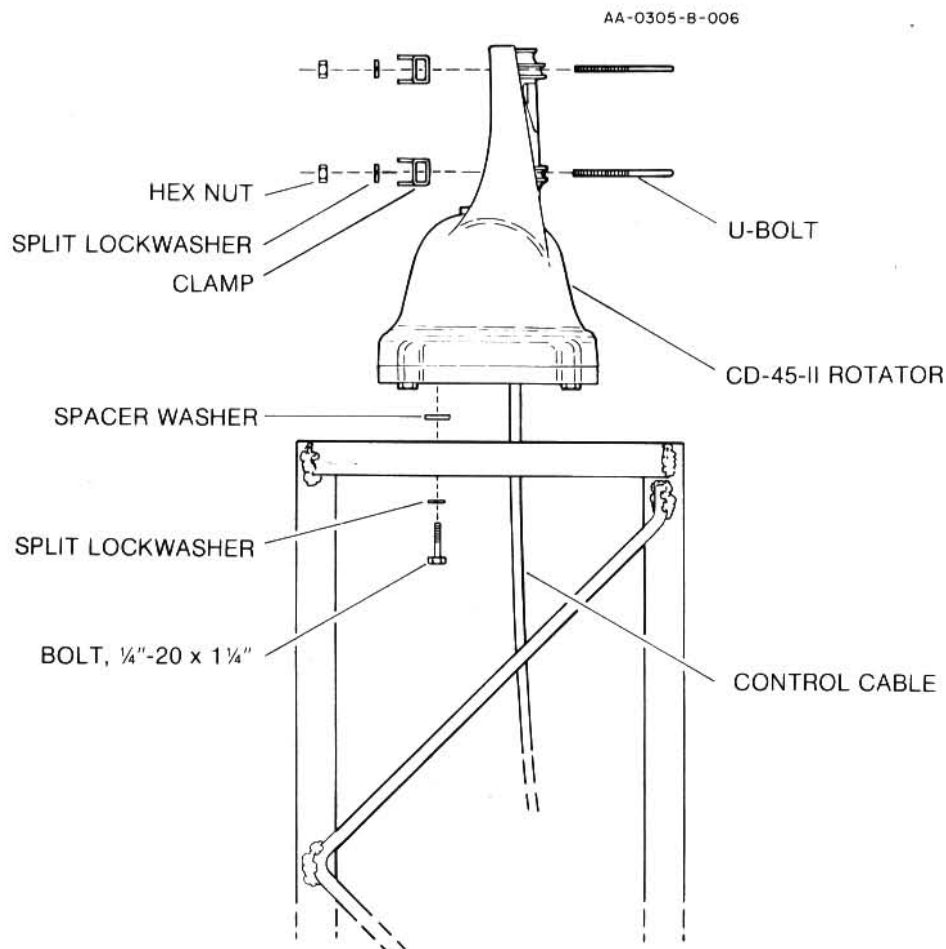

Figure 8
2. The rotator is attached to the tower plate by means of four (4) bolts and lockwashers (see Figure 8). Spacer washers must be used between the rotator and plate for clearance of the rotator housing bolt heads. The flat tower plate must be drilled in four (4) places using the template provided with this manual unless the tower plate is already properly drilled. A fifth hole must be drilled or cut to clear the control cable.
4. Assemble the mast and antenna to the top of the rotator using the U-bolts, nuts and lockwashers through the rotator and clamps as shown in Figure 8. The maximum mast diameter that may be used is $2\frac{1}{16}$ " O.D.. Turn the antenna by hand until it points South, then tighten the U-bolts securely.